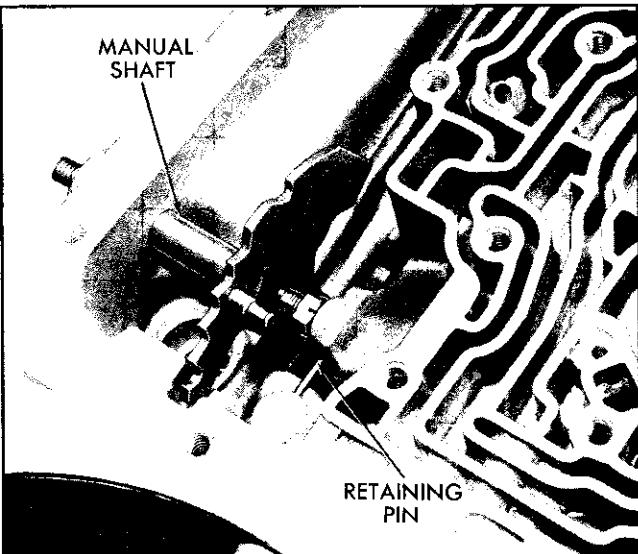

Fig. 7E-34 Removing Manual Shaft Retaining Pin from Case
5. Remove forward clutch assembly and turbine shaft from transmission (Fig. 7E-32).